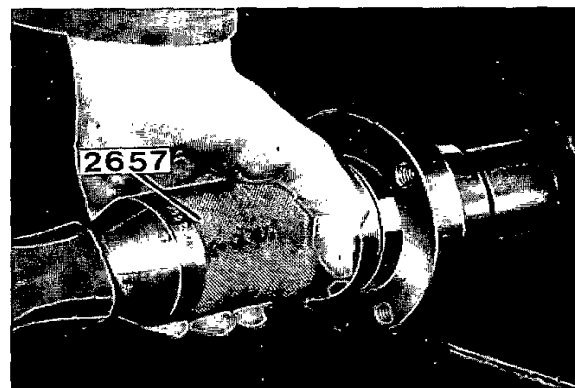

Fig. 84. Fitting the polygon hub
11. Grease the crankshaft journal with molybdenum disulphide. Fit the centering part of drift 2657 on the crankshaft journal. Heat up the polygon hub to about 100°C (212°F). Knock the hub quickly onto the journal to within about 5 mm (0.20") of the gear surface (fig. 84).